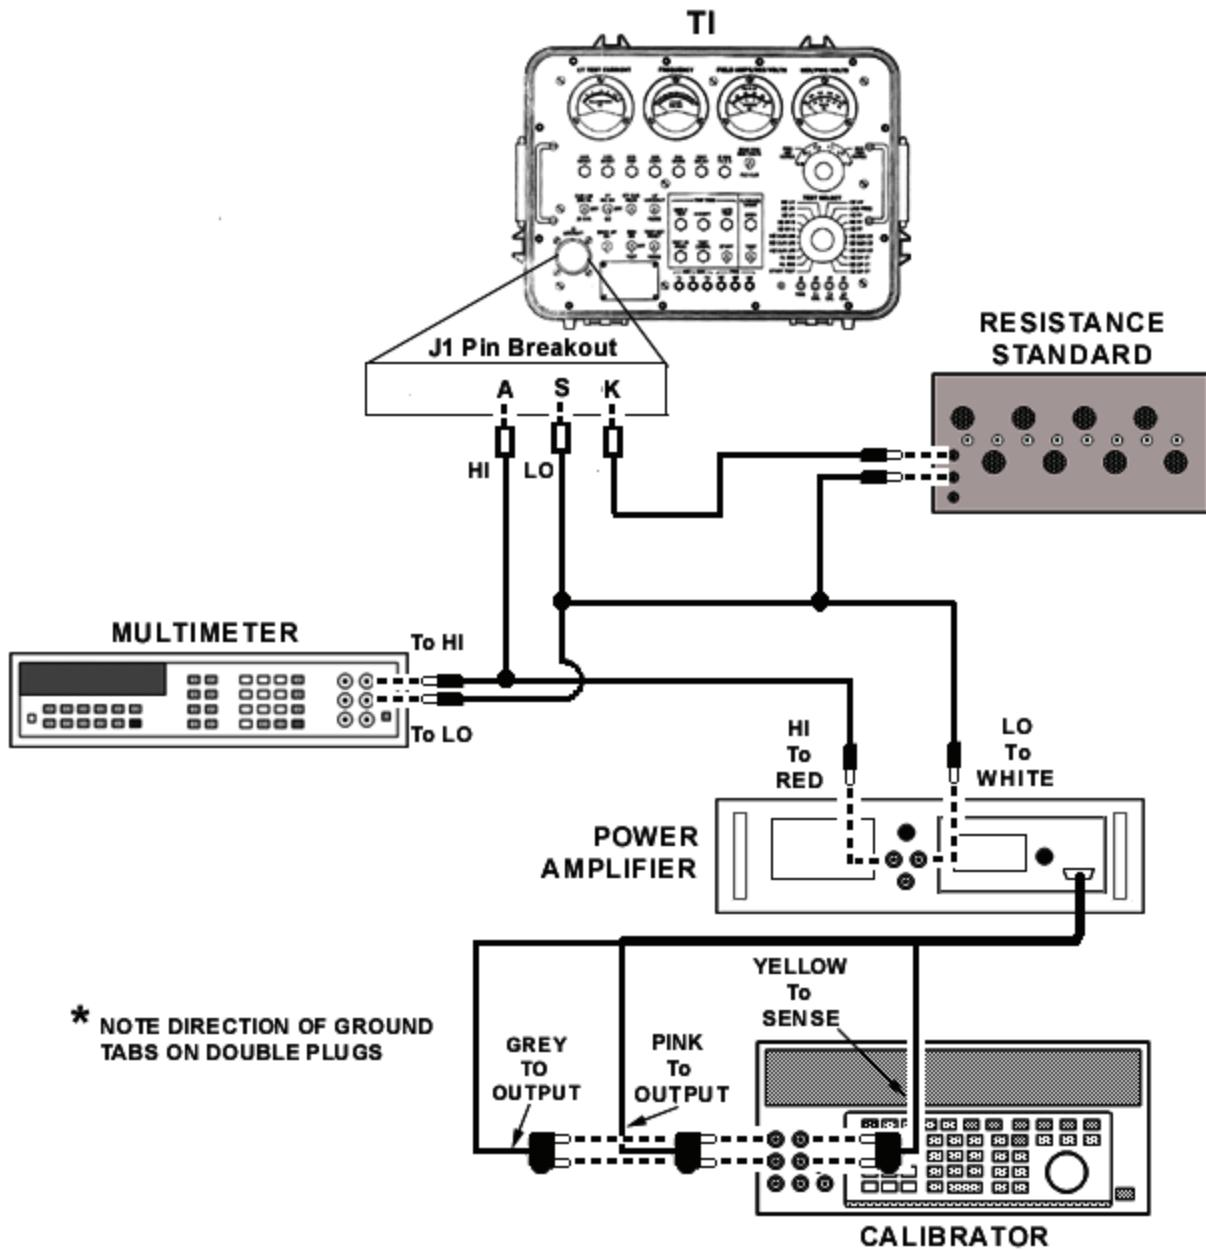

Figure 2. CT TEST CURRENT - equipment setup.
(1) Connect equipment as shown in figure 2.
(2) Position TI controls as listed in (a) through (d) below: